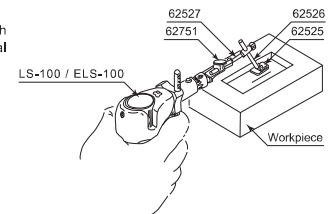

Fig. 10
2. Finishing of grooves (Fig. 10)